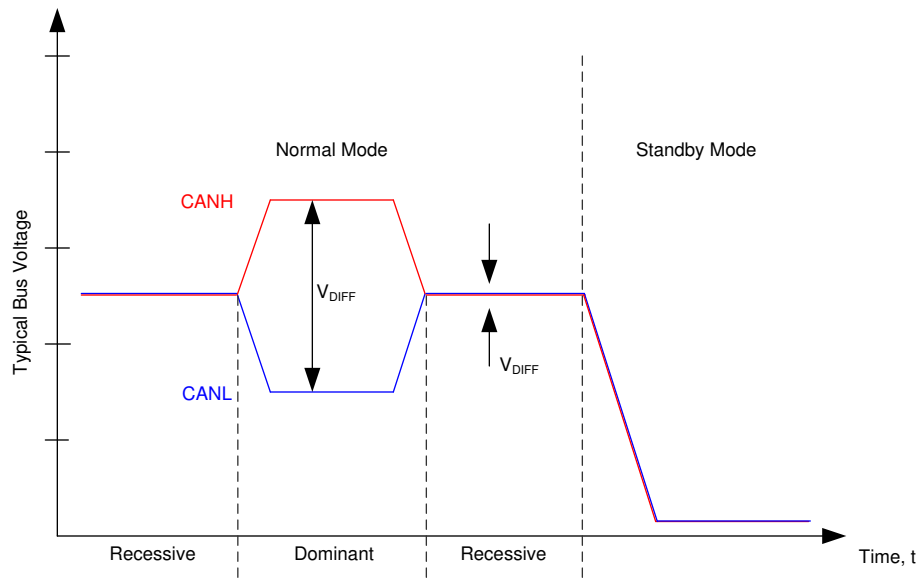
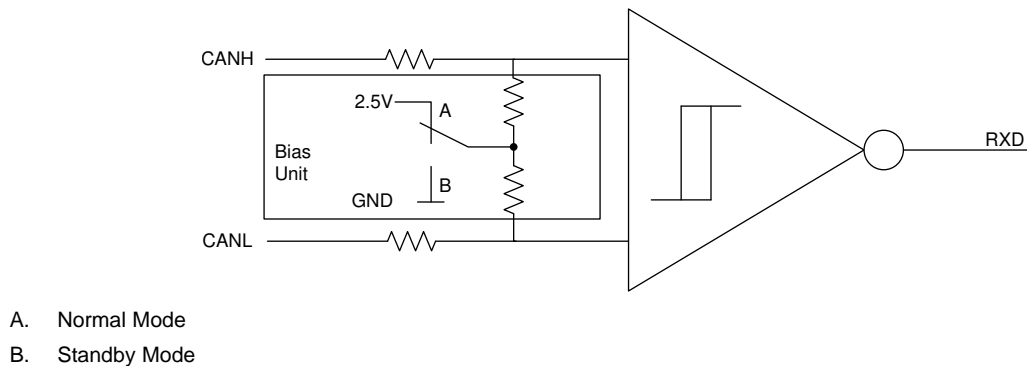

Figure 13. Bus States
Figure 14. Simplified Recessive Common Mode Bias Unit and Receiver
The CAN bus has two logical states during operation: recessive and dominant. See Figure 13 and Figure 14.
The TCAN1044-Q1 transceiver implements a low-power standby (STB) mode which enables a third bus state where the bus pins are weakly biased to ground via the high resistance internal resistors of the receiver. See Figure 13 and Figure 14.
This is the low-power mode of the TCAN1044-Q1. The CAN driver and main receiver are switched off and bi-directional CAN communication is not possible. The low-power receiver and bus monitor circuits are enabled to allow for RXD wake-up requests via the CAN bus. A wake-up request is output to RXD as shown in Figure 16. The local CAN protocol controller should monitor RXD for transitions (high-to-low) and reactivate the device to normal mode by pulling the STB pin low. The CAN bus pins are weakly pulled to GND in this mode; see Figure 13 and Figure 14.
(1) X = irrelevant
(2) For bus state and bias see Figure 13 and Figure 14